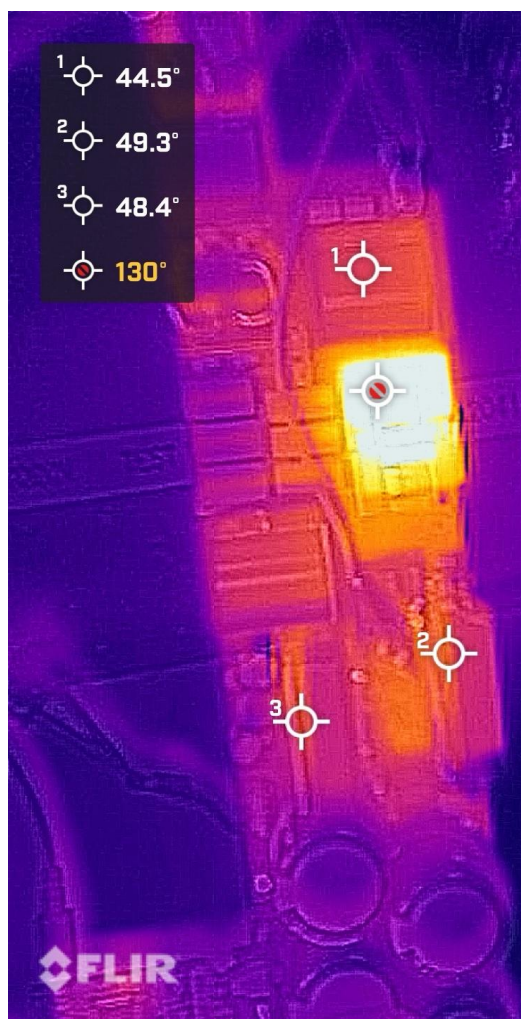

Figure 19. Surface Temperature Distribution (at the recommended output power)
The thermal characteristic evaluation results when operated at the recommended output power (5 kW) for 10 minutes are shown ($T_a=25\text{ }^{\circ}\text{C}$). The board surface temperature distribution captured by a thermography camera is shown in Figure 19, and the detailed temperatures for each measurement point (MP) are shown in Table 3. Note that this measurement was conducted under forced air cooling using an external fan, with heatsinks attached to the Fast Leg GaN Daughter Board and the Slow Leg SJ-MOSFET Daughter Board. The highest temperature on this evaluation board occurs at the high-frequency inductor. If you are considering using it at higher power levels, the inductor must be redesigned, as the current rating and thermal design margin may become insufficient.